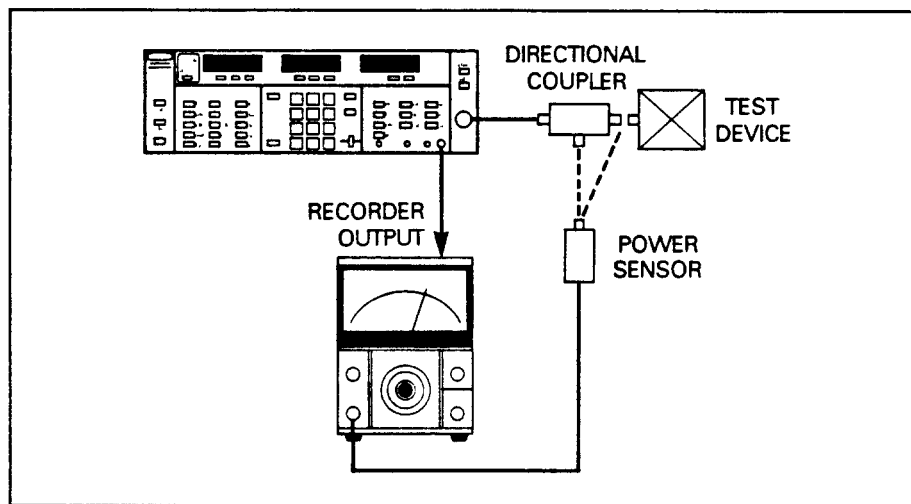

Figure 3-23A. Test Setup for Power Meter Leveling
1. Connect power sensor to the uncoupled port of the directional coupler, as shown in Figure 3-23A.